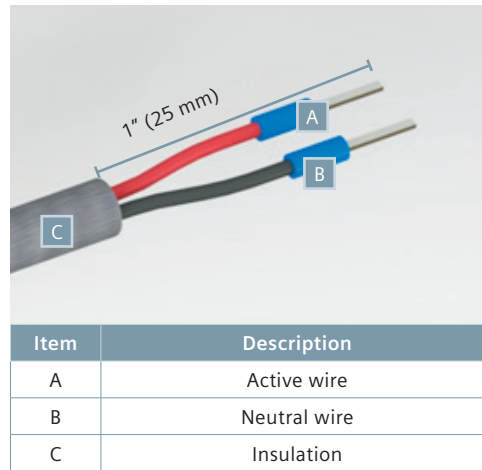

Figure 25: Auxiliary power cable details
- The external insulation is to be cut back as shown in Figure 25.